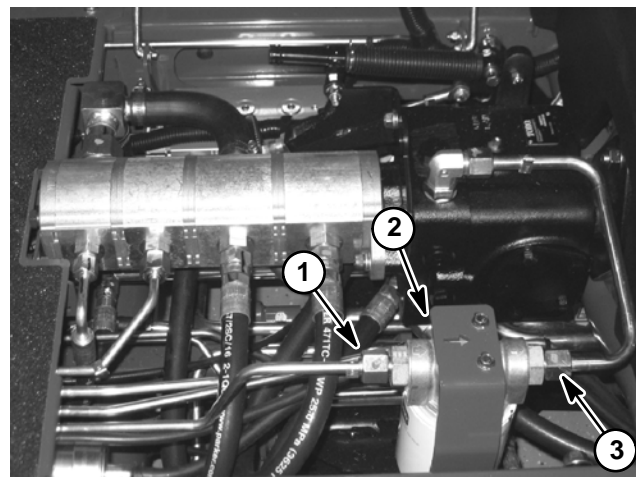

Figure 37
5. Thoroughly clean ends of hydraulic tubes that connect to the oil filter (Fig. 37). Disconnect hydraulic tubes from oil filter adapter. Remove two (2) flange head screws that secure oil filter adapter to frame and remove oil filter and adapter assembly from machine.